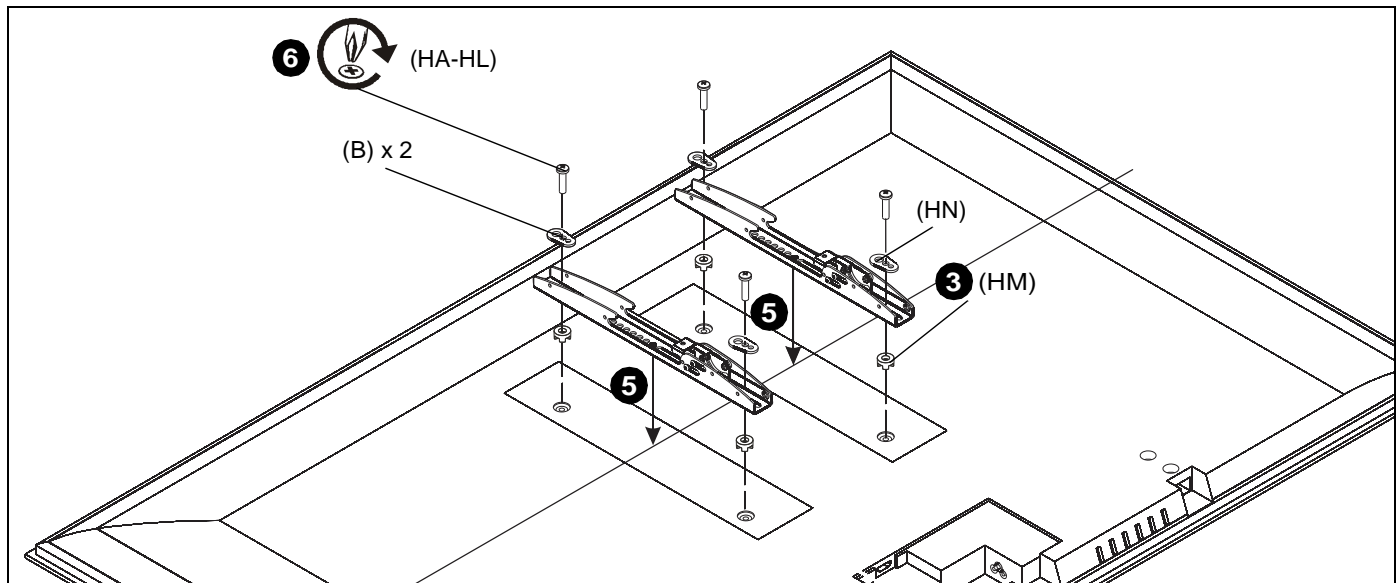

Figure 4
2. Select screw *diameter* by examining hardware (HA-HK) (4mm, 5mm, 6mm or 8mm) and comparing with mounting holes on display. (See Figure 4)
3. Select spacers: (See Figure 4)
- If mounting holes are not recessed and both uprights (B) can lay flat against display, then no spacers are required.
- If mounting holes are recessed, or if protrusions prevent uprights (B) from laying flat, then nesting spacers (HM) must be used.
4. Select screw *length*: (See Figure 4)
- Using your hand, insert **SHORTEST** length screw of selected diameter (HA, HD, HG or HJ) through universal washer (HN), uprights (B), nesting spacer (HM), into display mounting hole. Do NOT
5. Place uprights (B) on display, ensuring: (See Figure 4)
- Center of uprights (B) are as close to the center of the back of display as possible after being installed. Center of bracket is indicated by the diamond-shaped hole.
6. Use selected screws and spacers to install two interface uprights (B) to back of display. (See Figure 4)